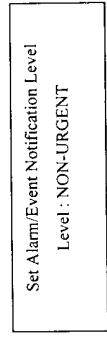

Figure 3-17 Alarm Notification Level
- Use the Arrow or Numeric keys to select Alarm/Event Notification Level from the Alarms Menu. Press the Enter or Return key. The Alarm/Event Notification Level screen is shown in Figure 3-17.